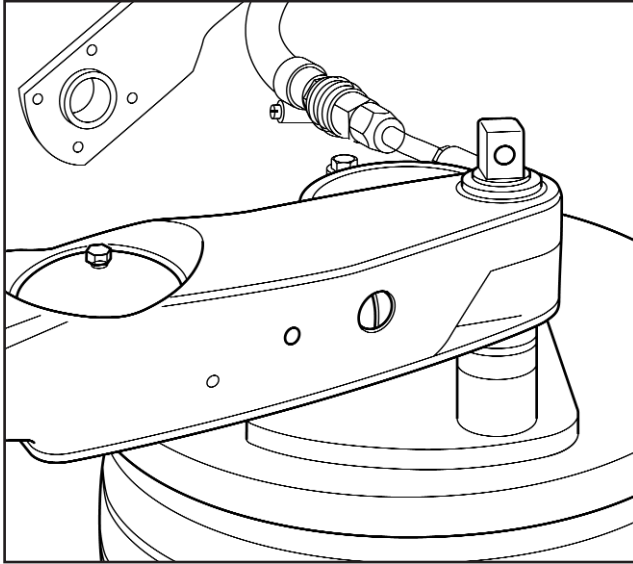

Fig 4.9
5. Fit new nuts to the upper mounting studs and tighten to a torque of 41Nm (Fig 4.9)